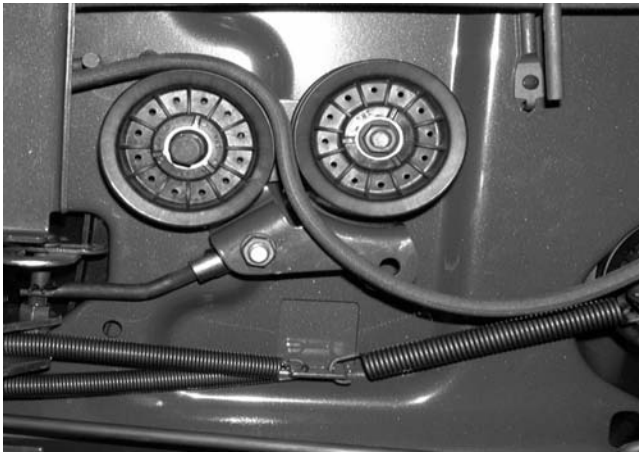

FIGURE 6.
- 5). Loosen (DO NOT REMOVE) the flat moving idler on the double-idler bracket. See figure 6.